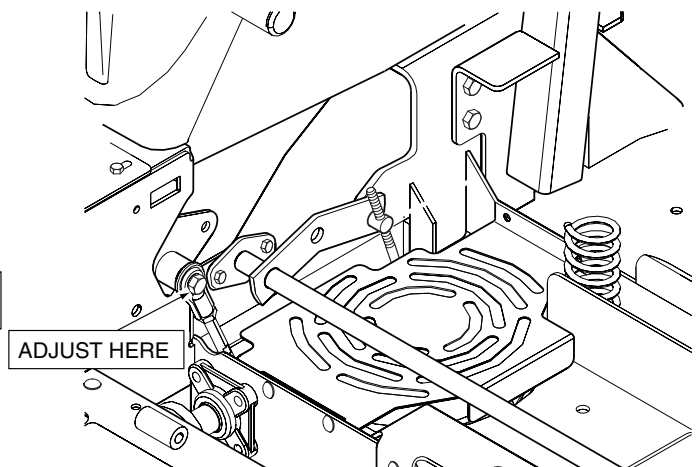

Figure 6-3. Steering Control Rod Adjustment
4. Tilt the seat forward and adjust the RH wheel by loosening the upper control linkage mounting bolt. See Figure 6-3. Allow the transmission to position the control linkage..
- A. Stop the machine and place the steering control levers in the neutral position. Turn the tracking adjustment bolt for the LH pump inward (clockwise). This will cause the control rod to stroke the LH pump less, slowing down the LH wheel. See Figure 6-3.
- A. Stop the machine and place the steering control levers in the neutral position. Turn the tracking adjustment bolt for the RH pump inward (clockwise). This will cause the control rod to stroke the RH pump less, slowing down the RH wheel. See Figure 6-3.